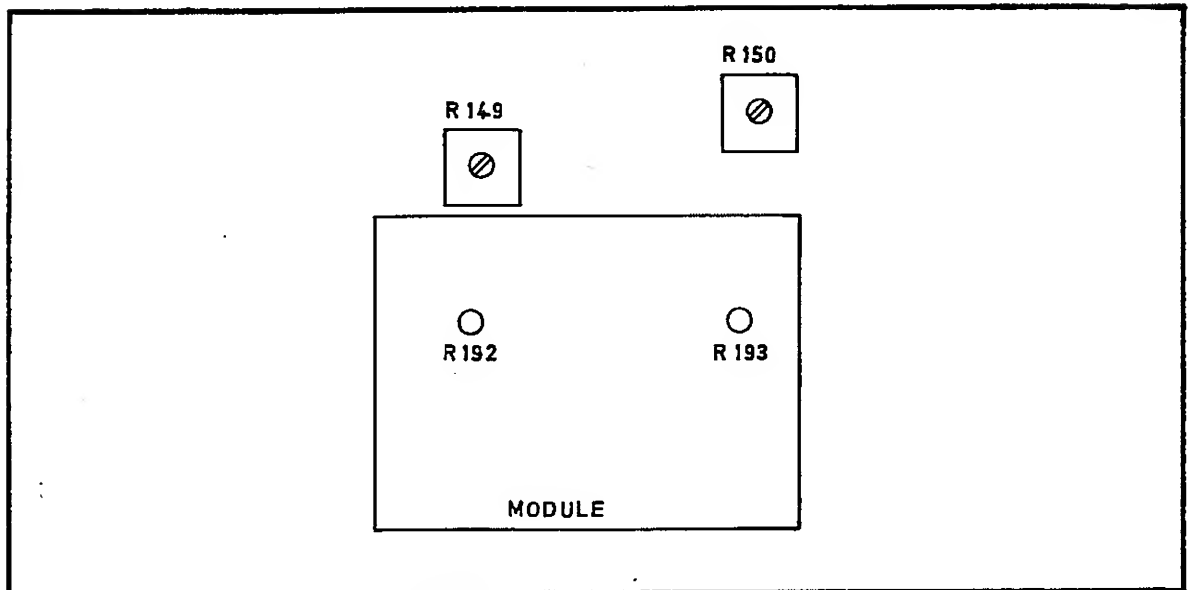

Fig 7.11 Location of R150 and R193
- 33 Set R150 fully counter-clockwise and R193 to its mid-position. R193 is located inside the screened module, as shown in Fig 7.11.